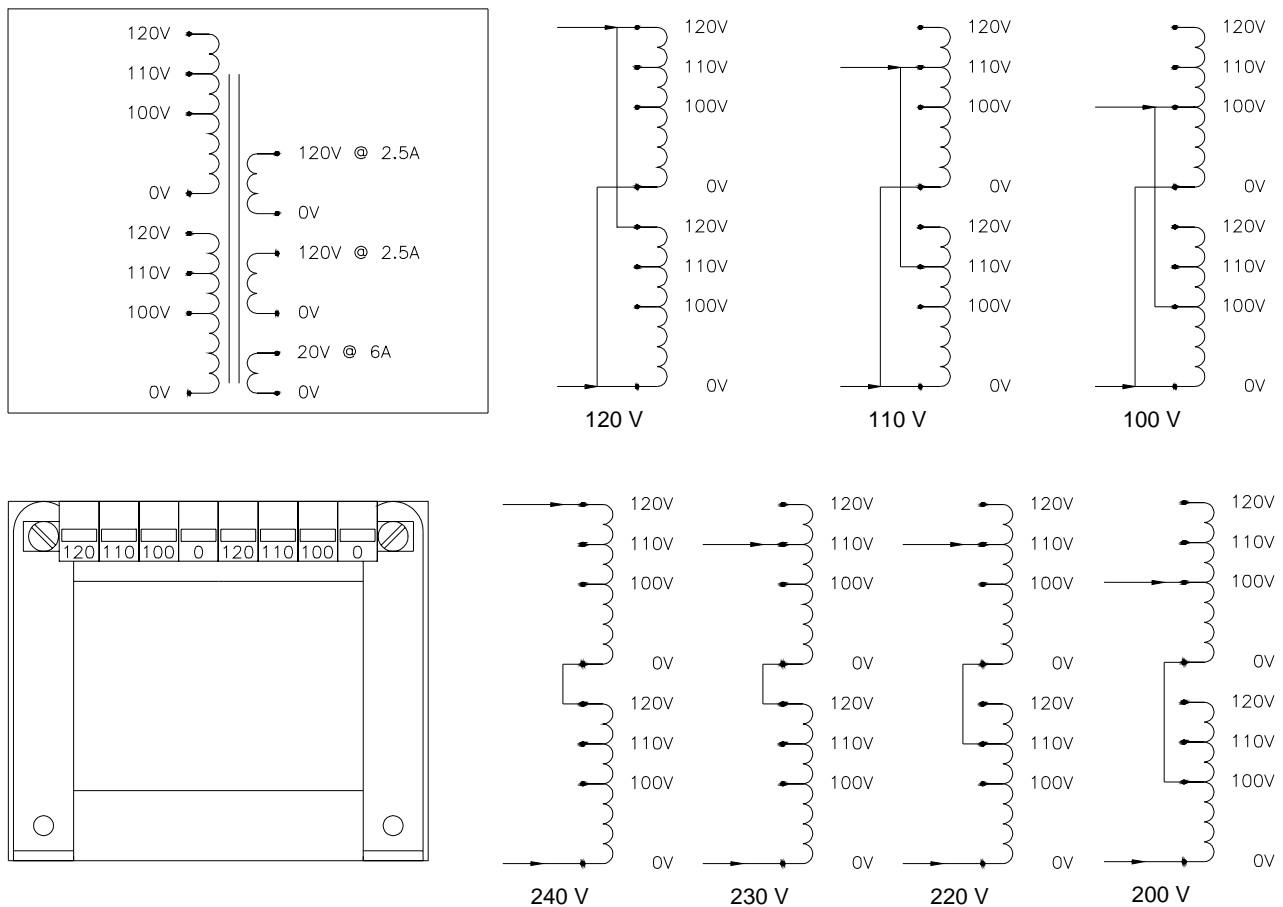

Figure 3-5. T1 Transformer Connection for Different Line Voltages
- b. If the line power is different from what is specified on the ID Label, different taps are available on transformer T1, located behind the lower front cover. Remove the lower front cover by following the instructions in section 5.2.2 and make connections according to Figure 3-5.